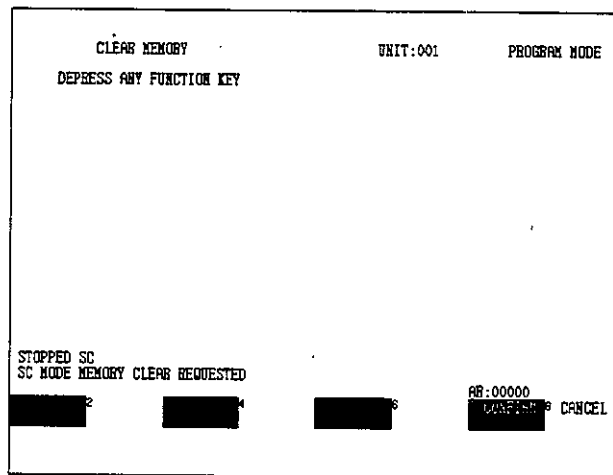

Figure 6.12
- 5) Select Clear Mode. The screen shown in *Figure 6.12* will be displayed.